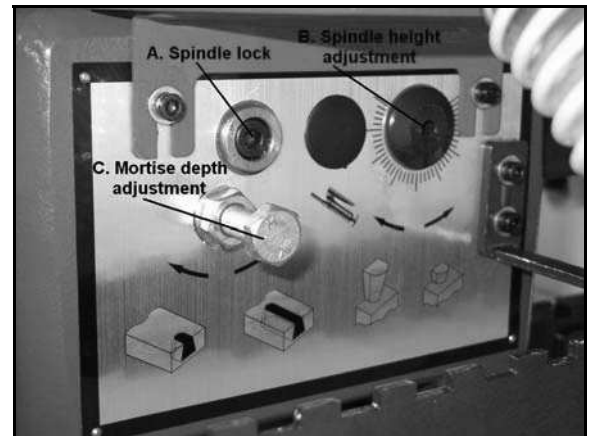

Figure 19
2. Loosen the spindle lock screw (Figure 19) by turning it counterclockwise with a 6mm hex wrench.
3. Turn the spindle height adjustment screw (Figure 19) with a 5.5mm hex wrench, either clockwise to raise the cutter (increase the cutter depth), or counterclockwise to lower the cutter (decrease the cutter depth).
The mortise depth adjustment bolt, shown in Figure 19, limits how far forward the headstock will go, and thus limits the length of your mortise cut.
2. Loosen the hex nut on the mortise depth adjustment bolt (Figure 19) by turning the hex nut counterclockwise with a 17mm wrench.